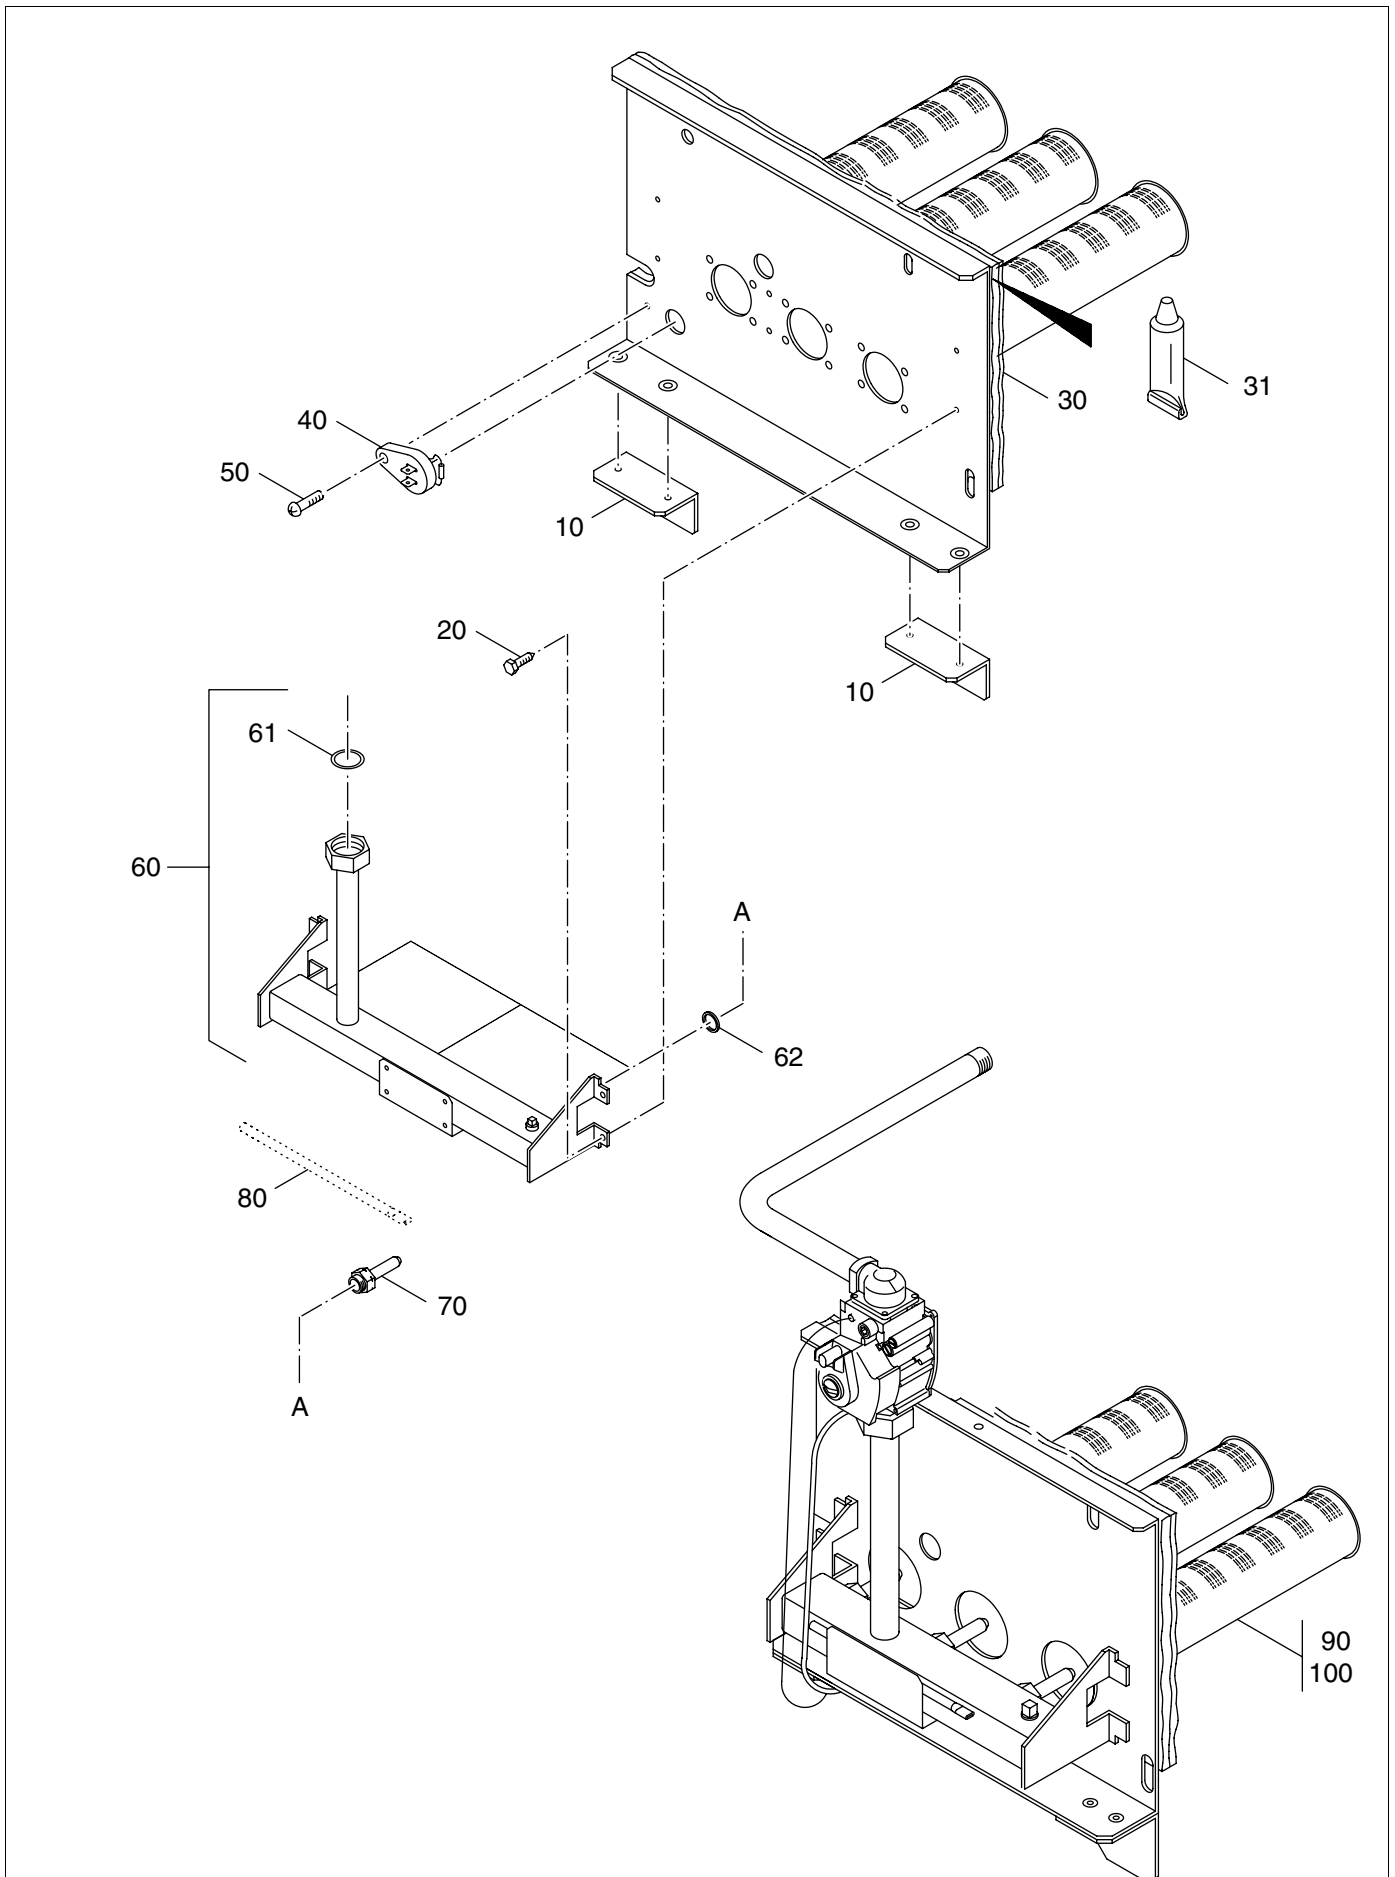

Fig. 54 Manifold - component parts
**Manifold - component parts (→ Fig. 54)**